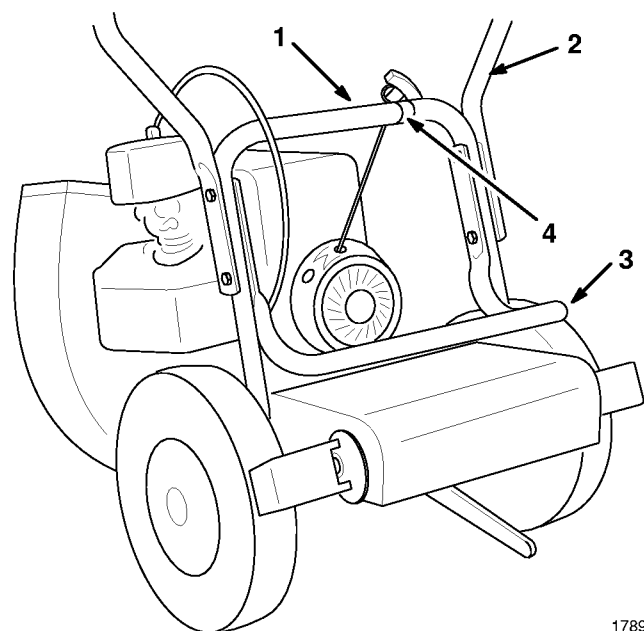

Figure 1
1. Attach upper handle to lower handle with four capscrews and locknuts (Fig. 1). Secure bag support to inside of lower handle while mounting handle.